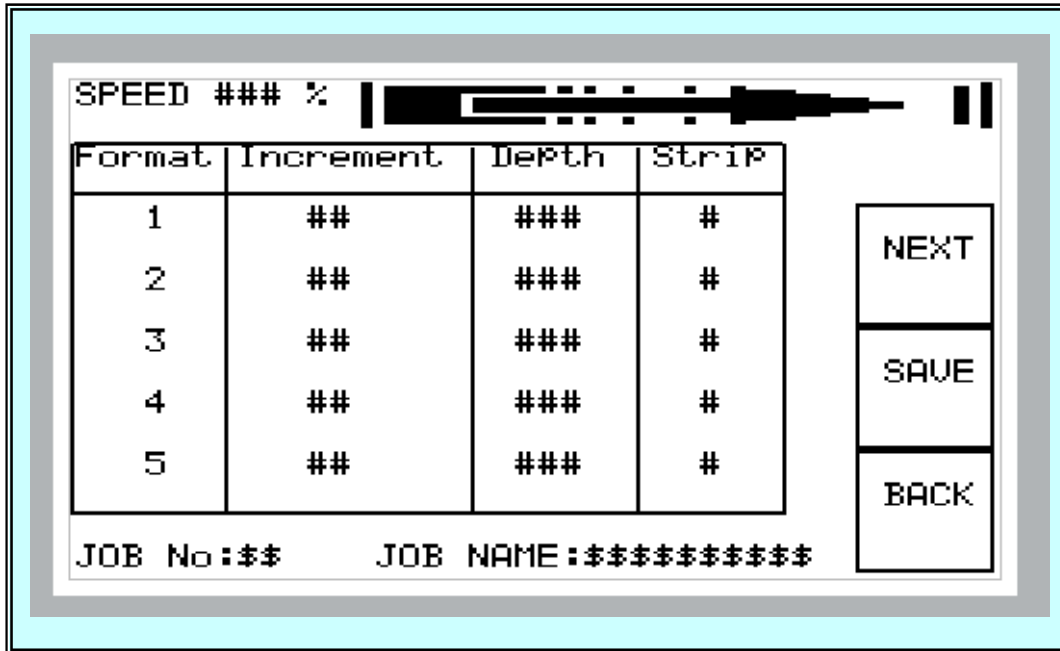

Fig 1.9 Program Edit Screen
- Touch the EDIT button to open the Program Edit Screen (Fig 1.9).